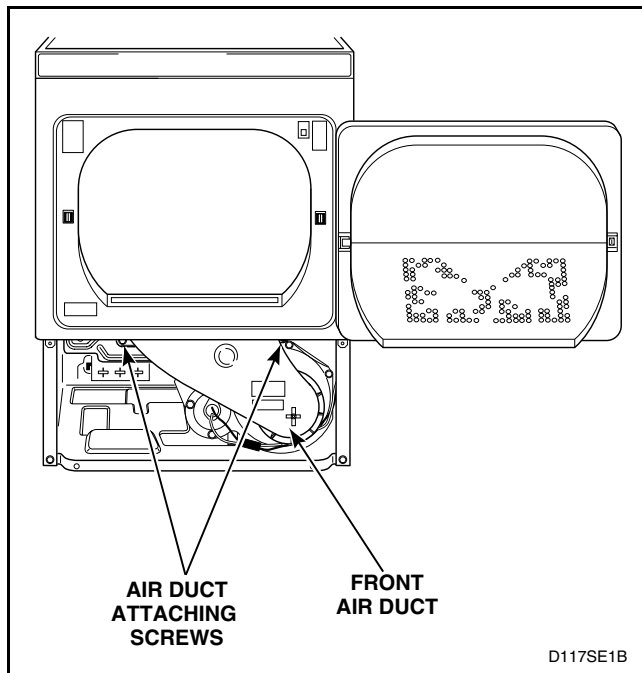

Figure 43
- Remove two screws holding air duct to front bulkhead and remove air duct. Refer to *Figure 43*.